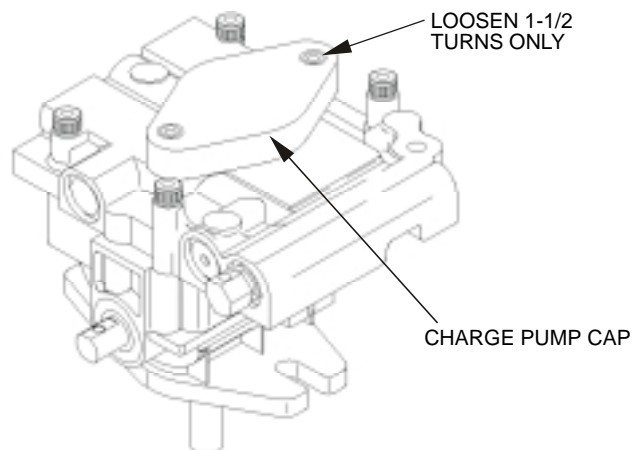

FIG. 11
- g) If either drive wheel does not rotate, one or both of the charge pumps (located on the top of the main pump as shown in Figure 11) may have lost their "prime". Refer to Section 5.1.10.
The critical area for purging air from the hydraulic system is between the oil reservoir and each charge pump located on the top of each variable displacement pump. (See Figure 11).
- e) To “prime” charge pump, loosen two hex socket head capscrews (shown in Figure 11) **1-1/2 turns only. Make sure engine is not running.** Lift charge pump housing upward and wait for a steady flow of oil to flow out from under housing. **Retighten capscrews.** Do this for both pumps. Note: Hydraulic reservoir can be pressurized to up to 5 psi to speed this process.